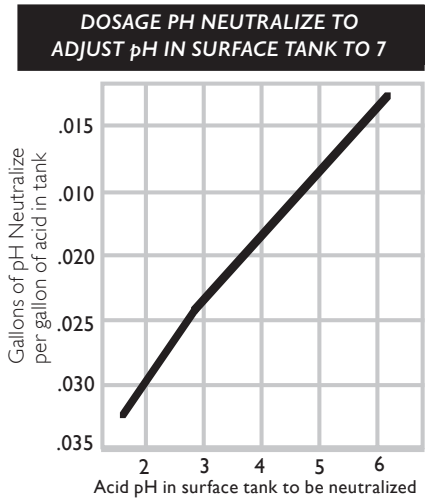

Figure 4
- 5. A chart provides specific dosages dependent upon the pH of acid being neutralized (Figure 4)
Do not pour pH NEUTRALIZE into a well to neutralize acids. This liquid weighs 12.4 lbs per gallon and may force debris out the screen or bore hole and cause additional plugging. When treatment is complete, airlift (or pump) all chemistry from the bottom of a well or system into a tank. Measure the average pH of acid, and pour the required pH NEUTRALIZE (Figure 4) into the acid, and mix slightly. pH will rise quickly. Once a pH of 6 is obtained, dispose of chemicals, according to federal, state and local regulations. Pump a second batch of acid from the well and repeat the process. The pH may vary substantially throughout the pumping process until natural pH returns to normal. These estimates would be the minimum amount of product to have on site for neutralization of acids after treatment. The calculation in Figure 4 assumes an average pH of 4 and approximately 3 times the volume of the bore hole that would require adjustment. This number may vary depending on the calcareous content (calcium) of the formation, the amount of acid used, and the time the acid is in the well. 6 to 12 volumes of the bore hole may be required.